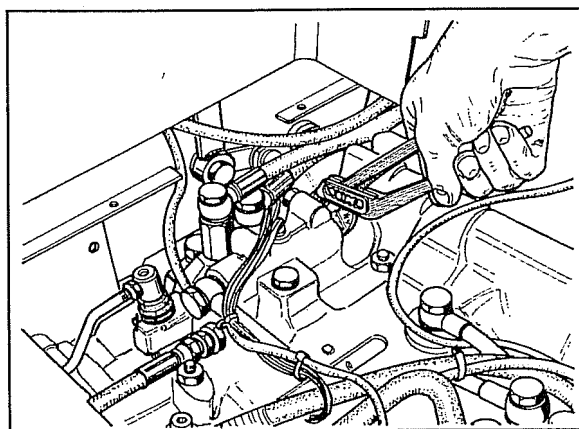
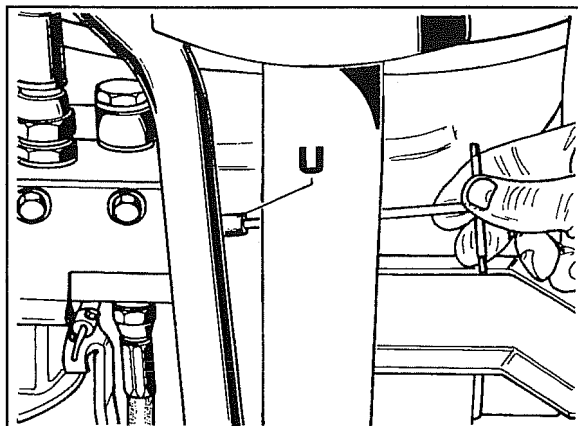

Fig. 24
Fig. 25
- a. Unscrew and remove the cover, turn the pressure regulating screw on the spooling valve mounts as shown in Fig.24. If this does not bring the circuit back to its work pressure as read on the gauge, regulate the prioritising valve control (**U** Fig.25) to reset the pressure. When the pressure is correct, tighten back the prioritising valve.
- b. When the reading on the gauge is 150 bar, use the pressure regulating screw on the spooling valve mount Fig. 24 to lower the setting below 150 bar.